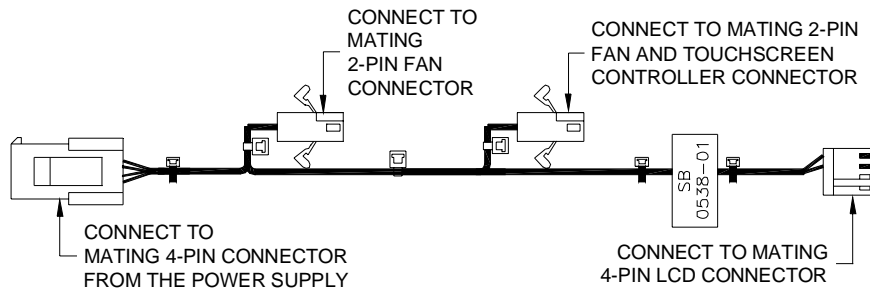

FIGURE 8 - TOUCHSCREEN & LCD POWER CABLE (SB0538-01)
5. Connect the 4-pin mating connector on the provided touchscreen & LCD power cable (SB0538) to the remaining 4-pin connector coming from the new power supply (refer to Figure 8).
Continue connecting the touchscreen & LCD power cable as shown in Figure 8. For more detail follow the steps below: